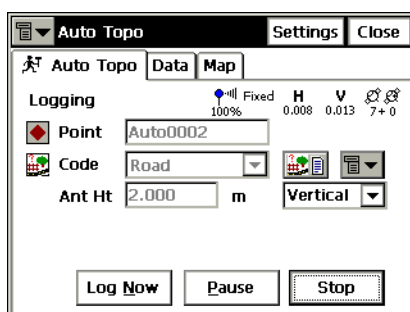

Figure 5-51. Auto Topo – Start
- **Start**: starts the survey process. After pressing, the button changes its name to **Stop** and the **Pause** button becomes available (Figure 5-51 on page 5-41).